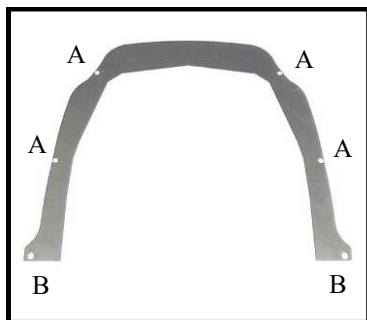
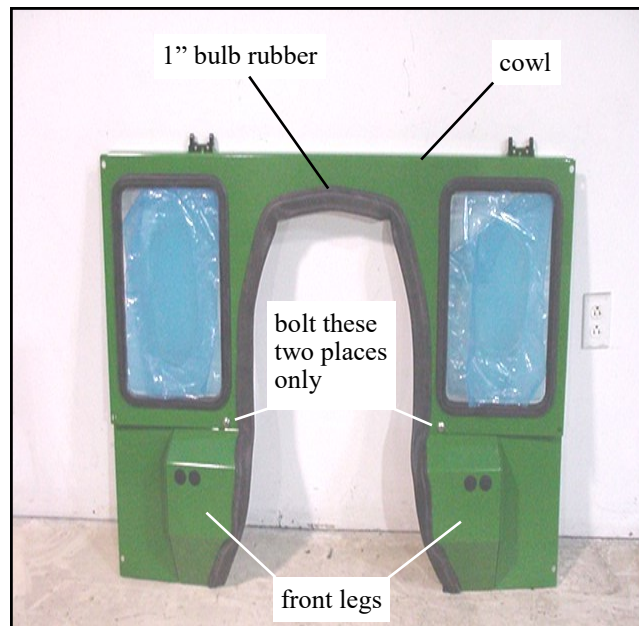

Fig. 3.1
Fig. 3.2
Note: fig. 3.1 shows the cowl insert and which four holes to bolt up initially (bolt location "A"). Bolt the cowl insert to the inside surface of the cowl.
- 3.2 Next, bolt the front legs onto the inside surface of the cowl insert so that the cowl insert becomes sandwiched between the cowl and the front legs (bolt location "B"). Attach the front legs using a total of two bolts (5/16-18 x 3/4" long), four steel washers, two nylon washers, and two locknuts. Install 1" bulb rubber (approximately 80") along the sheet metal edges as shown in reference fig. 3.2. Trim any extra bulb rubber.
Pre-assemble the cowl and front legs (as shown in fig. 3.2) by fastening together at the inside hole only, using two 5/16" x 3/4" long button head screws, steel washers, nylon washers, and locknuts. Locknuts to be on the inside surface of the cowl assembly. Install 1" bulb rubber (approximately 80") along the sheet metal edges as shown in fig. 3.2. Trim any extra bulb rubber. Note: the cowl insert (shown in fig. 3.1) and the associated hardware is NOT required on the 20 Series model numbers listed above.